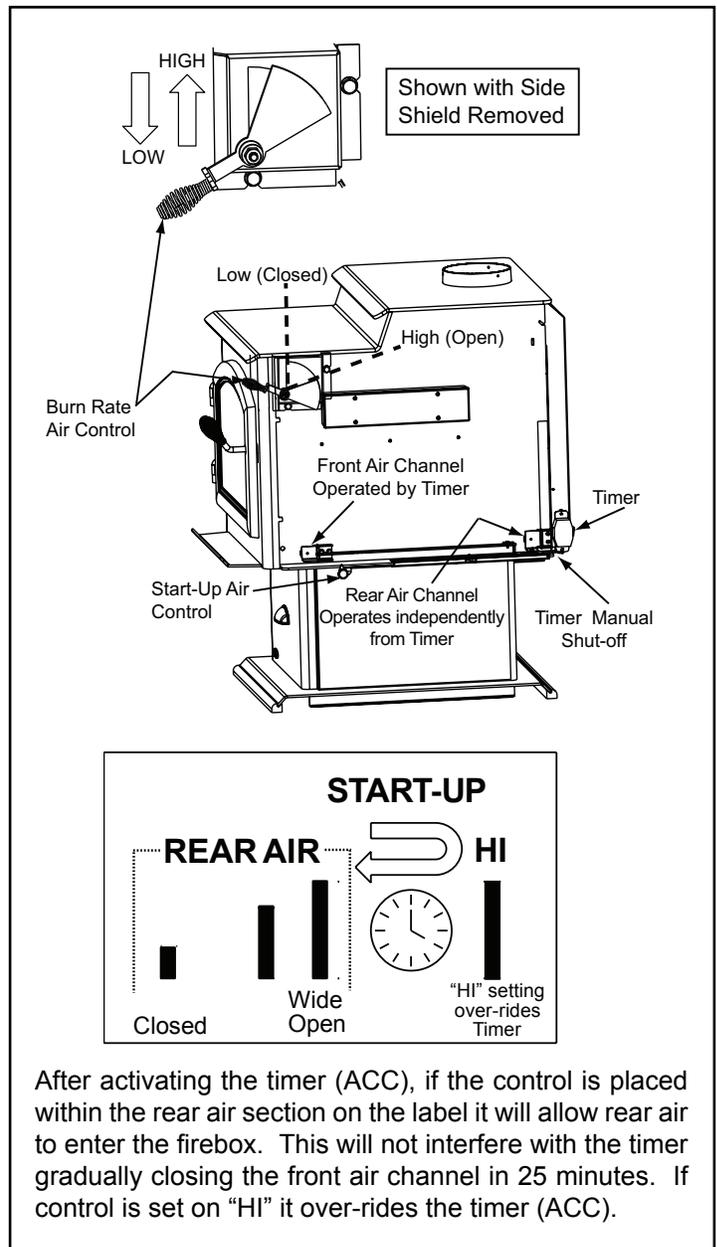

Figure 11.1
- When the control is raised all the way up it is on the High setting and when pushed all the way down it is on the Low setting. **Figure 11.1** on page 11.
1. This appliance has a timer system (ACC) that operates the appliance at its maximum efficiency removing any guess work for the homeowner. Follow the instructions below for each burn rate for the Start-Up Air Control and Burn Rate Air Control. **Figure 11.1.**